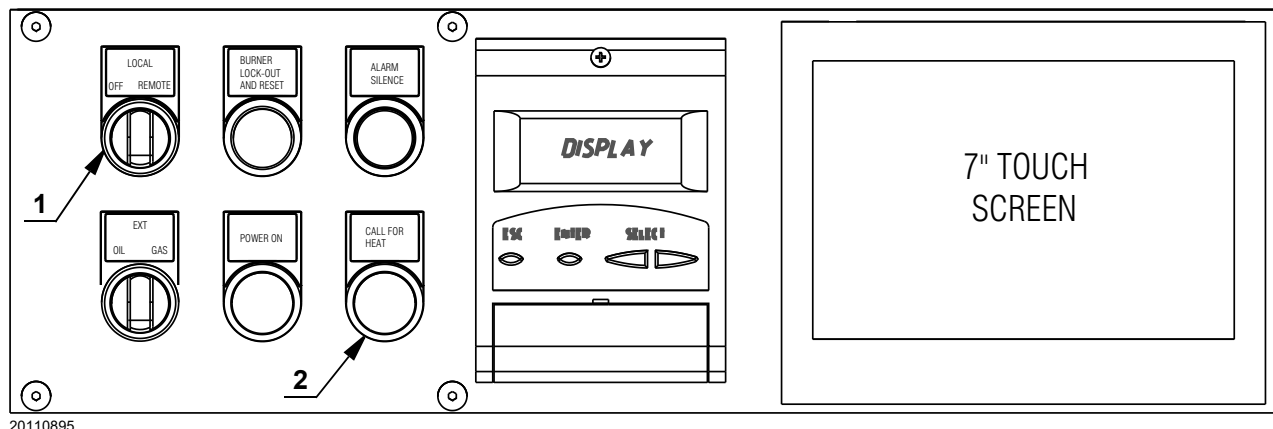

Fig. 45
- Close the local controls and position the selector 1)(Fig. 45) to "LOCAL".
- When the limit thermostat (TL) is closed, the "CALL FOR HEAT" 2)(Fig. 45) signal must be on and the burner starts the starting cycle.